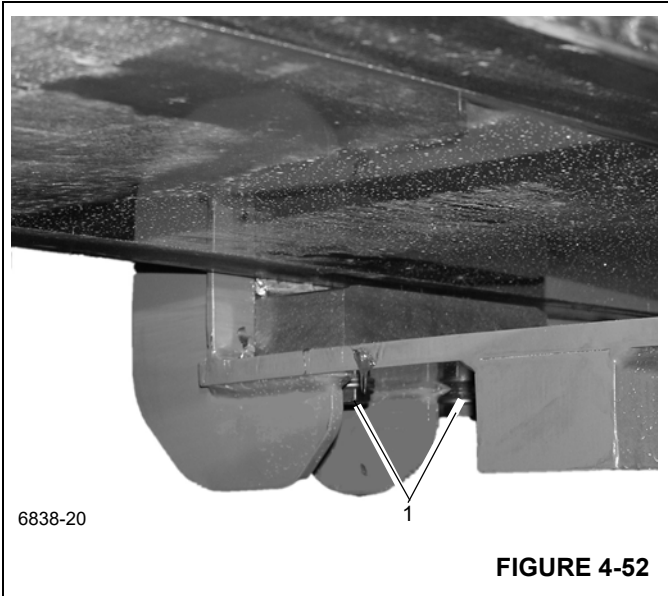

FIGURE 4-52
9. Raise the fly section slightly and insert the bottom wear pad into place and secure with retaining bolts. Insert the bolts (1), (Figure 4-52) from the bottom of the outer mid section.